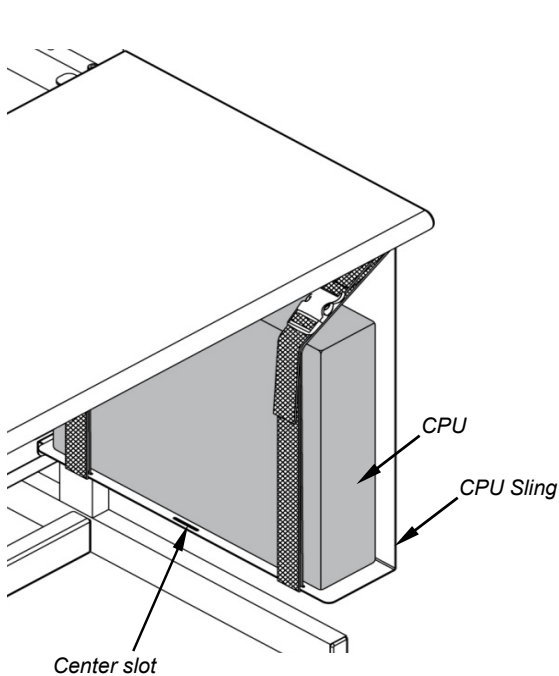
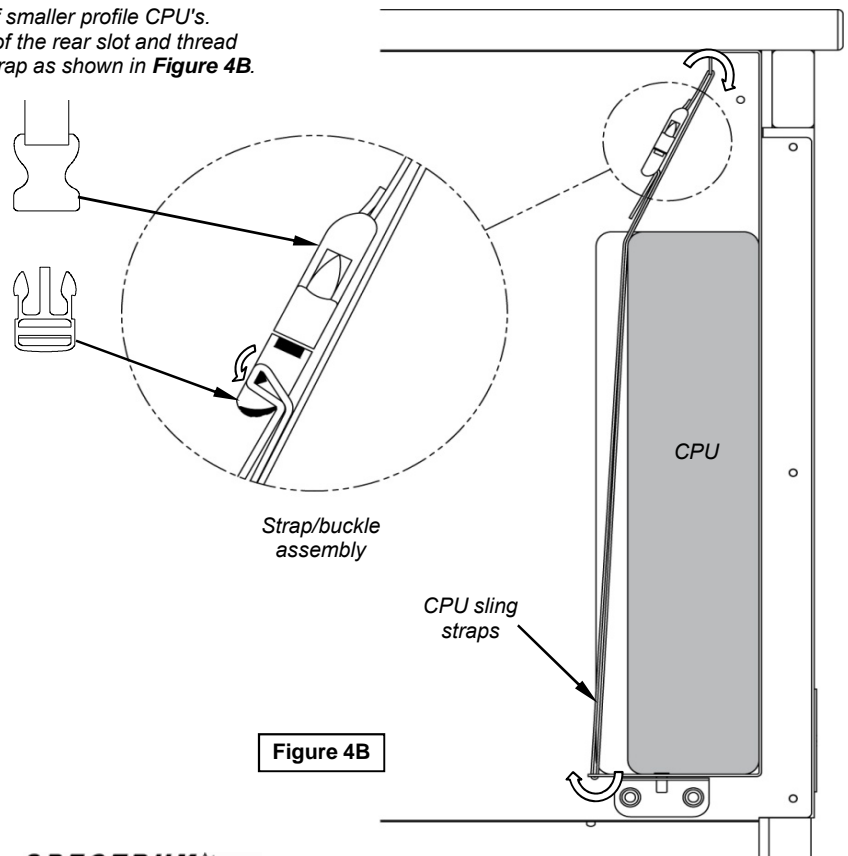

Figure 4A
Figure 4B
- B. Make sure the CPU will be supported by both straps. Tighten the straps around the CPU while keeping the buckles positioned as high as possible to avoid interference. **Figure 4A.**
**Note:** The center slot can be used for better support of smaller profile CPU's. If the center slot is necessary, take the rear strap out of the rear slot and thread into the center slot shown in **Figure 4A.** Thread the strap as shown in **Figure 4B.**